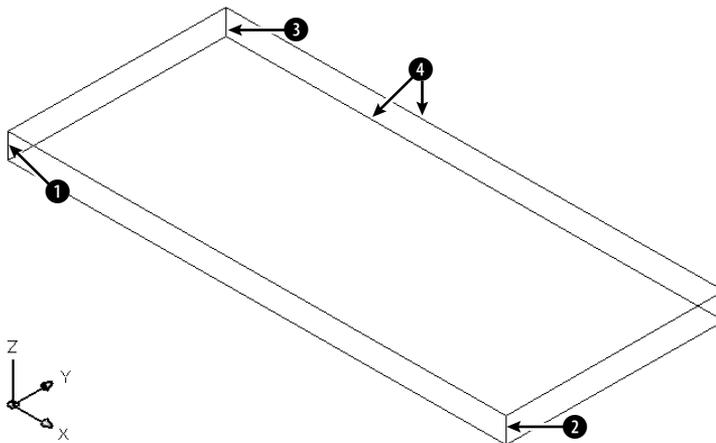

Figure 24-38: You can chamfer this solid box to create a new shape.
2. Save the file as `ab24-12.dwg` in your AutoCAD Bible folder. This is a simple box with dimensions of 233×102×12 millimeters, as shown in Figure 24-38.
Pick the edge at ❶ in Figure 24-38.